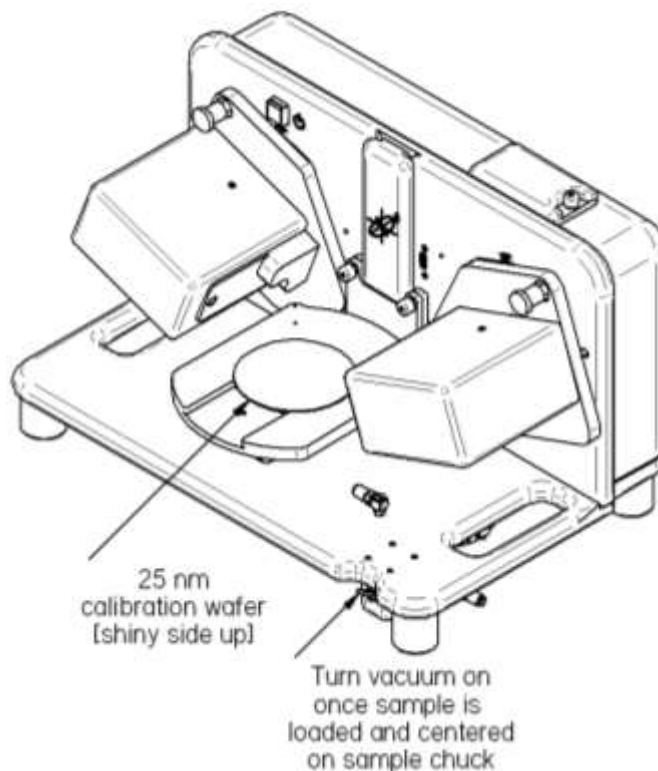

Figure 4-10. Calibration wafer mounted on the alpha-SE system at 70°.
Mount the 25nm (250Å) reference wafer and turn the vacuum switch on, as shown in Figure 4-10, then click ‘Measure’ to begin the measurement. If the alpha-SE angle is not set to the correct angle of incidence (as determined by magnetic sensors), you will be prompted to move to the correct angle, as shown in Figure 4-11. At each angle of incidence, the alpha-SE system first adjusts the sample height (“Z-height”) to center the beam on the detector unit aperture, and then acquires spectroscopic ellipsometry (SE) data.